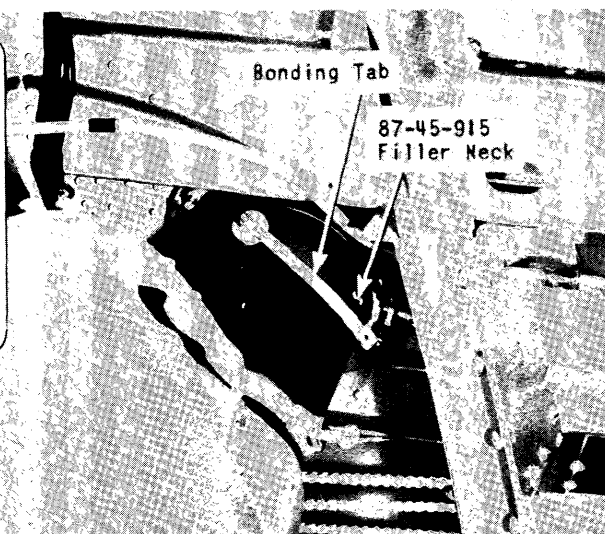

Figure 234 - Filler Neck Installation - Fuselage Fuel Tank
(9) Tighten the two clamps inside the fuselage. One to retain the filler neck on the tank and the other to lock the adapter in the neck. (See figure 234.)